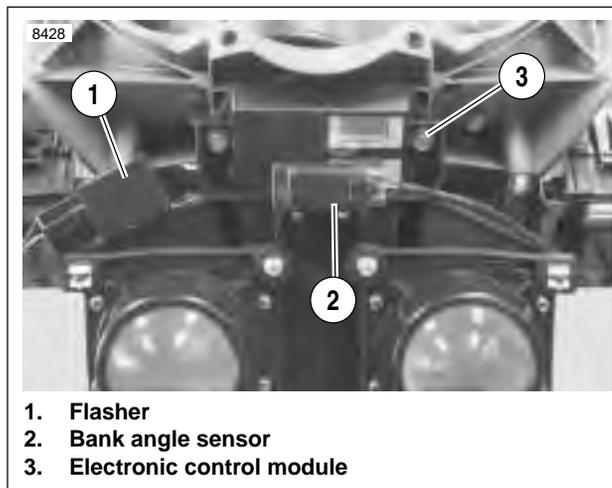
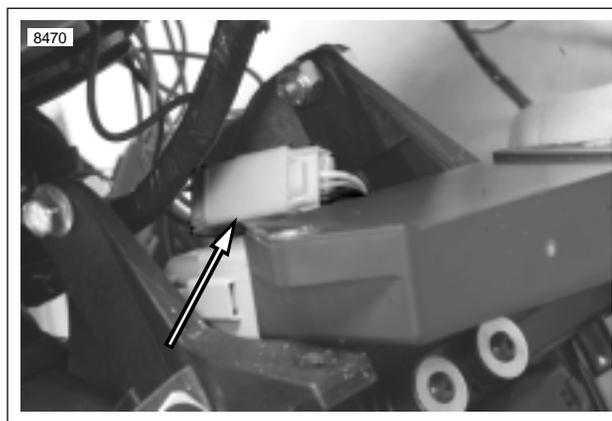
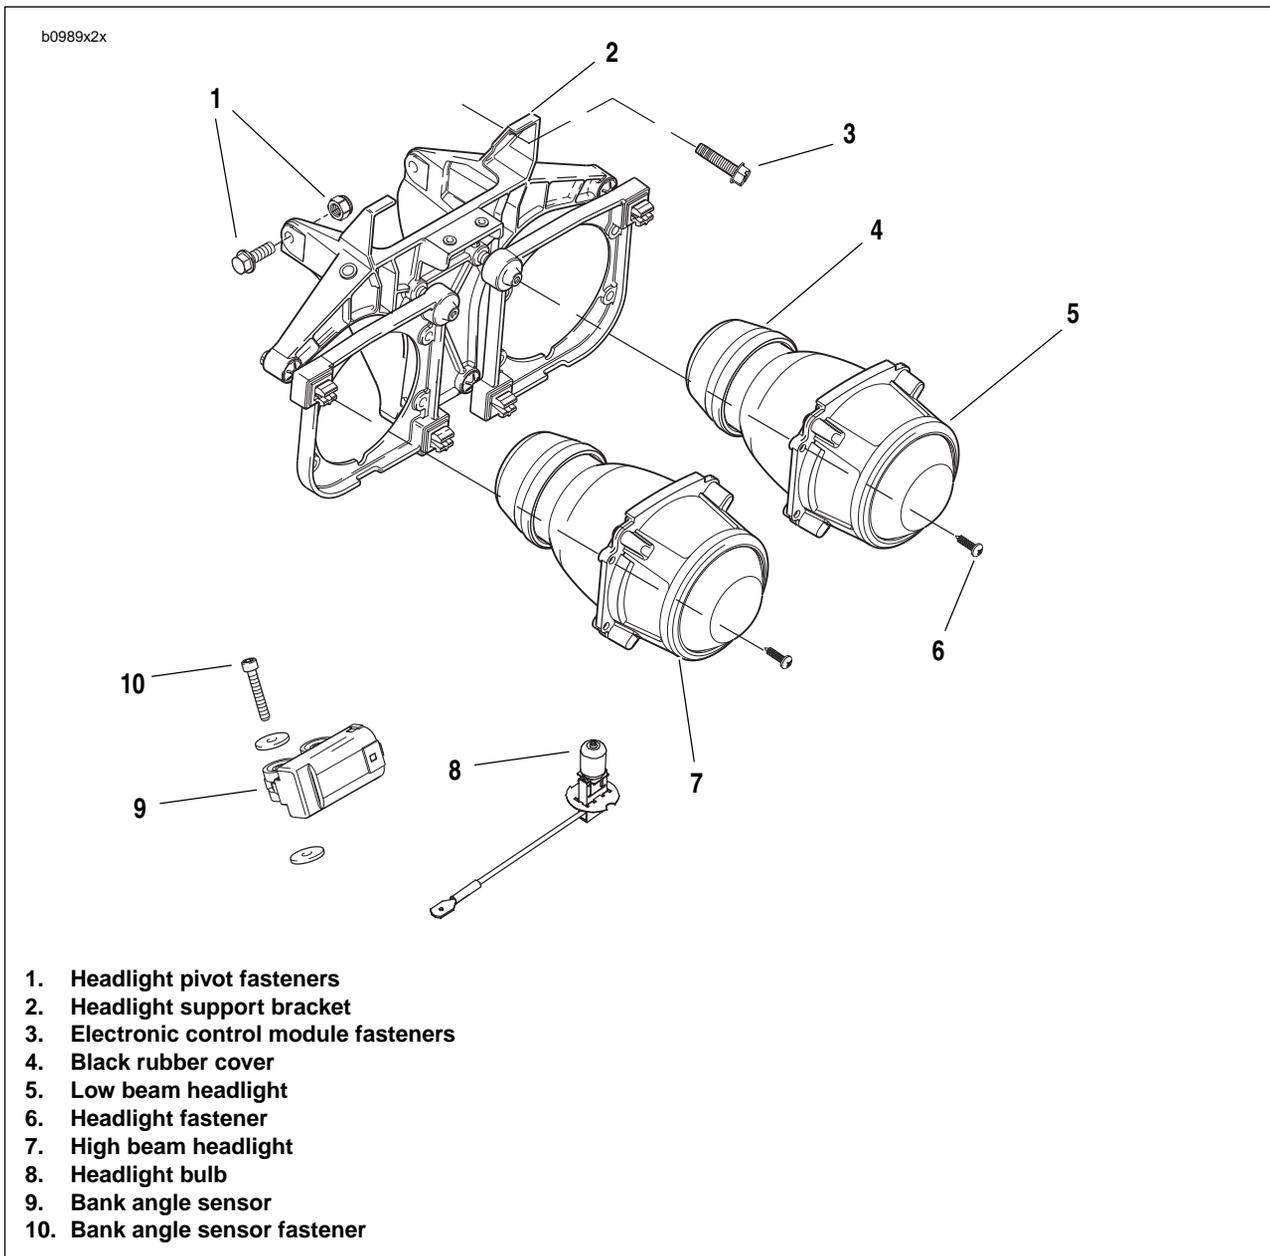

Figure 2-97. Headlight Support Bracket
Figure 2-98. Headlight Connector
Figure 2-99. Headlight Support Bracket Assembly
4. See Figure 2-97. Disconnect flasher (1) and bank angle sensor (2). Remove electronic control module fasteners (3).
5. See Figure 2-99. Rotate headlamp support bracket.
- a. Loosen headlamp pivot fasteners (1).
- b. Rotate headlight bracket (2) down.
6. See Figure 2-98. Disconnect headlight connection.
8. See Figure 2-99. Remove headlight support bracket (2).
1. See Figure 2-97. Remove bank angle sensor (2).
3. See Figure 2-99. Remove black rubber cover (4) from rear of headlights.
5. Disconnect headlight bulb (8) connector (white) from wire harness.
6. Remove headlights (5, 7) from headlight support bracket (2) by removing headlight fasteners (6).
1. See Figure 2-99. Align headlights (5, 7) into headlight support bracket (2). Tighten headlight fasteners (6) to 20-25 **in lbs** (2.3-2.8 Nm).
2. Connect headlight bulb (8) connector (white) into wire-harness.
4. Install black rubber cover (4).
5. See Figure 2-97. Install bank angle sensor connector case (2). Tighten to 12-36 **in-lbs** (1-4 Nm).
6. Install flasher (1) and tighten to 30-40 **in-lbs** (3-5 Nm).
2. See Figure 2-99. Install headlight pivot fasteners (1) but do not tighten.
4. See Figure 2-98. Attach headlight connector to headlight support bracket.
6. See Figure 2-99. Rotate headlight support bracket up (2) and tighten pivot fasteners (1) to 72-96 **in-lbs** (8-11 Nm).
7. See Figure 2-97. Install electric control module.
- a. Figure 2-99. Align electronic control module and headlight support bracket with fairing support bracket.
- b. Tighten electronic control module fasteners (3) to 72-96 **in-lbs** (8-11 Nm).
8. See Figure 2-97. Connect flasher (1) and bank angle sensor (2).